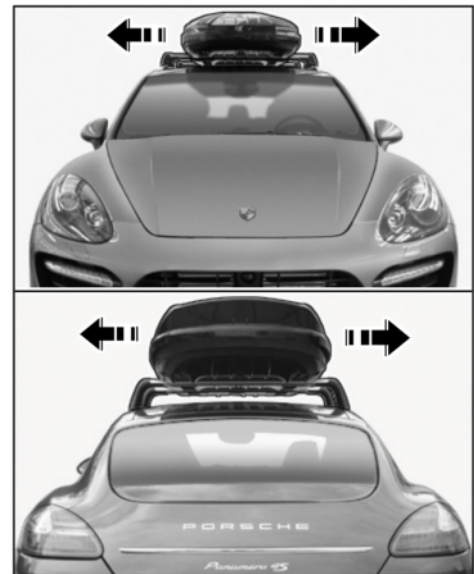

Figure 7
4.8.1 Sideways, with respect to the longitudinal axis of the vehicle (⇒ *Figure 7*):